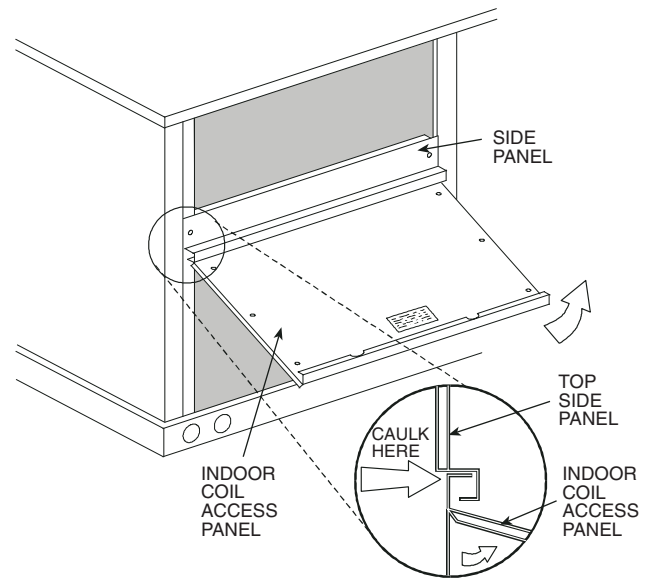

Fig. 24 — Indoor Coil Access Panel Relocation
3. The indoor coil access panel will be used as the top of the hood. Remove the screws along the bottom of the indoor coil access panel. See Fig. 24.
8. Caulk the ends of the joint between the unit side panel and the hood top. See Fig. 24.